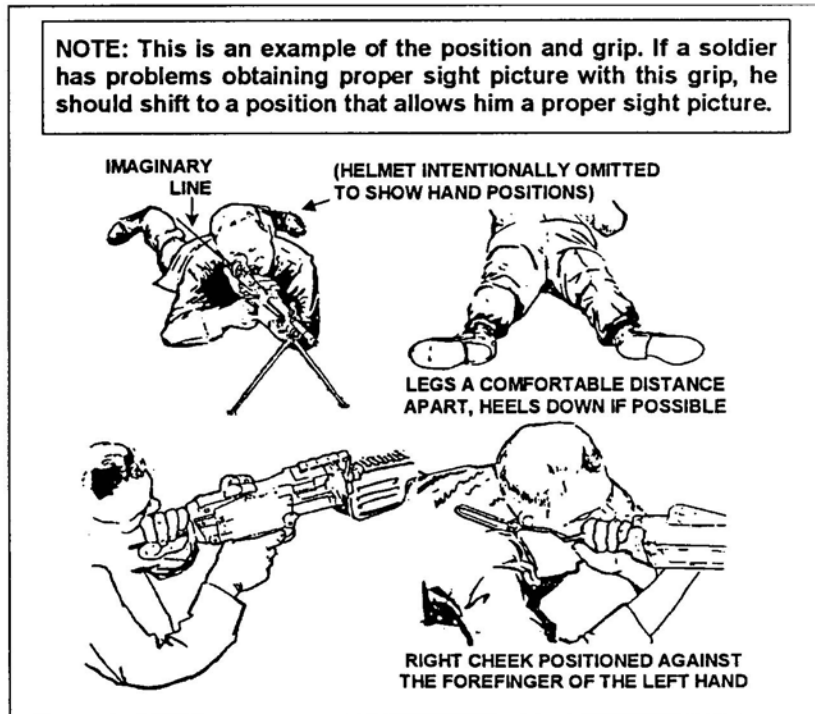
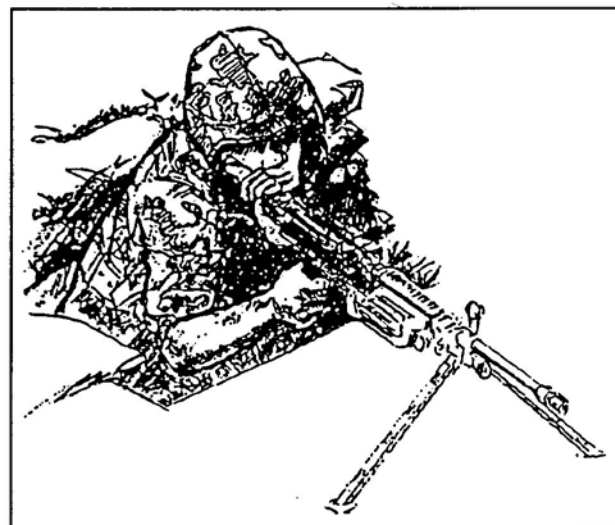

Figure 3. Prone position, bipod-supported.
Figure 4. Fighting position, bipod-supported.
2. Assume a good stable firing position (Figure 3 and Figure 4).